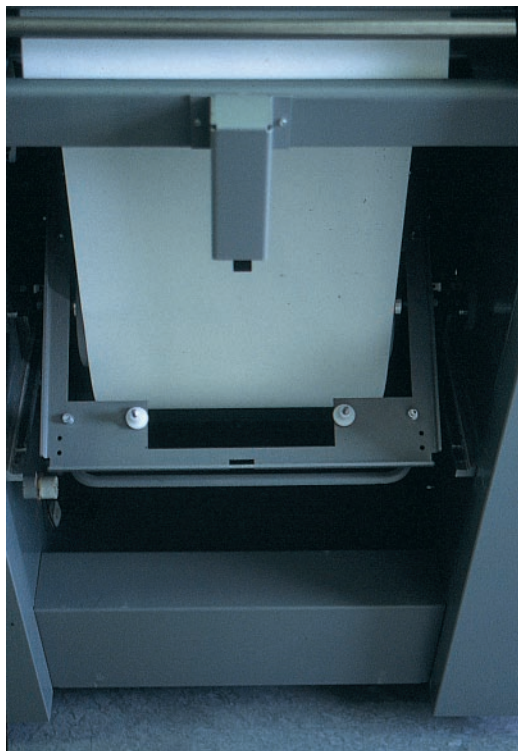

Figure 209. Two White Brushes
2. Mount the two white bushings, as shown in Figure 209 on page 240.